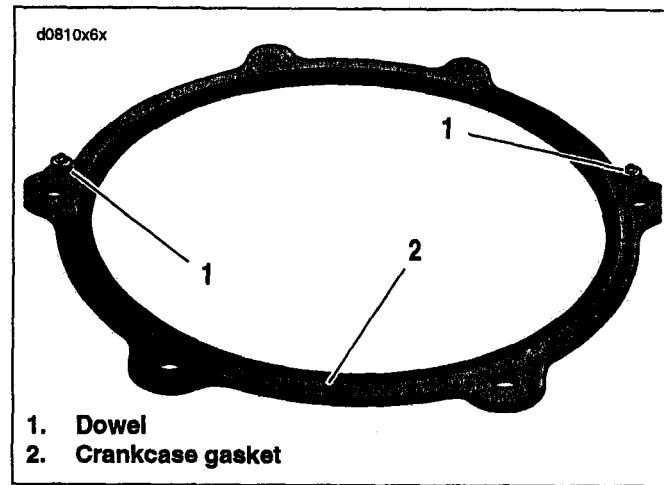

Figure 15. Crankcase Gasket
See Figure 15. In next step, be sure dowels (1) in **new** crankcase gasket (2) (Part No. 34934-06 from 94445 recall parts kit) engage holes in crankcase.